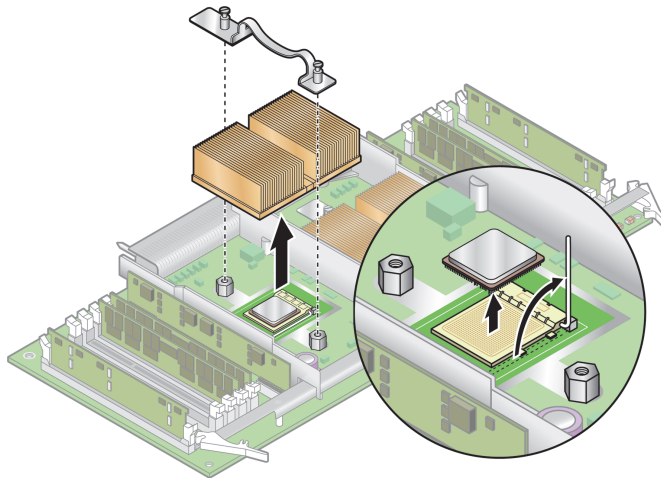

FIGURE 15 Removing the Securing Clip and Heatsink
5. Unfasten the two heatsink securing screws and remove the heatsink securing clip (see FIGURE 15).
9. Pull the socket release lever up to the fully open, perpendicular position (see FIGURE 15).